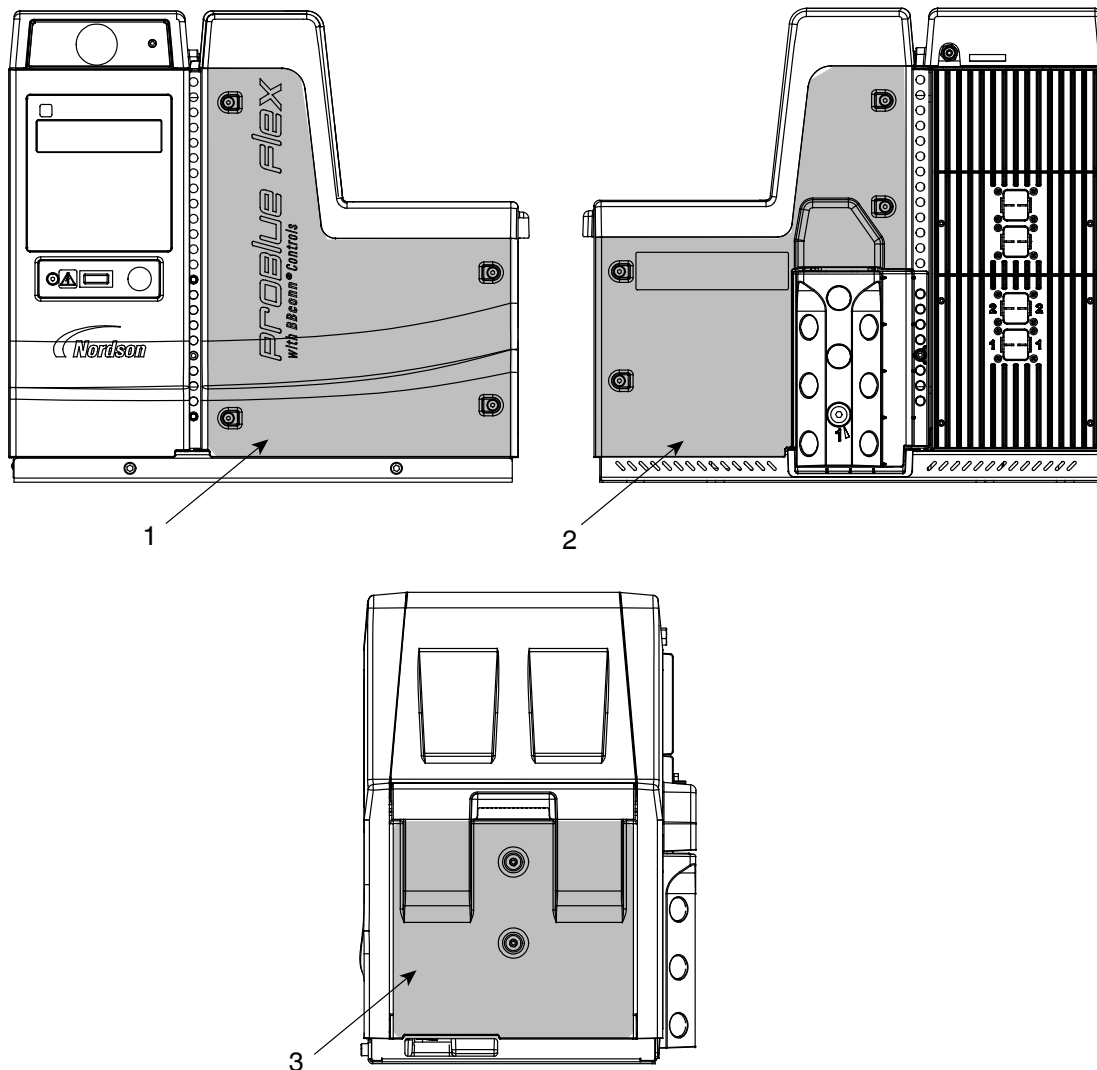

Figure 6-4 Melter panels
3. Remove the front panel of the melter by loosening the four latches. See Figure 6-4.